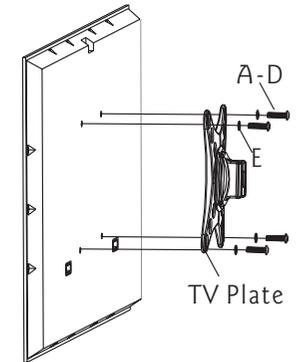

Fig 3
According LCD hole's size, deep, position to choose bolts. Using chose bolts(A-D) and washers(E) to install the LCD on the panel. As shown in Fig3.